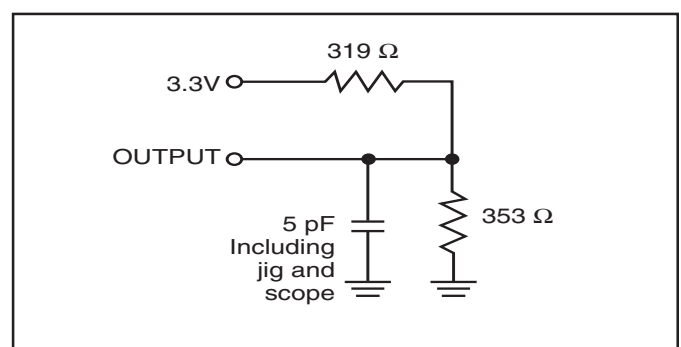

Figure 2.
- Tested with the load in Figure 2. Transition is measured ±500 mV from steady-state voltage. Not 100% tested.
3. Tested with the load in Figure 2. Transition is measured ± 500 mV from steady-state voltage. Not 100% tested.